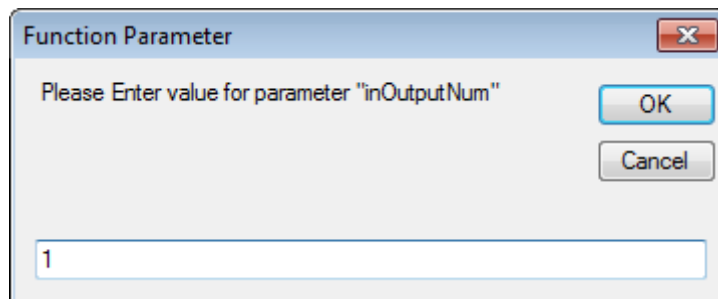

Figure 9 – Fill in the required parameter
- For PC2/PC1: 'TCP' as the Protocol *Refer to Figure 9*